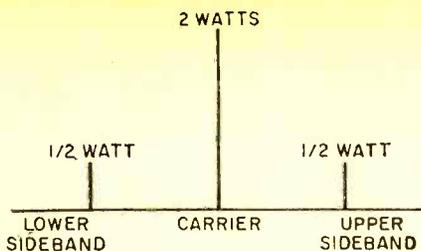

Fig. 3 The power distribution in an AM signal shows how much is wasted in the sidebands.
**Puckered-Out Power.** To heap another indignity on old-time AM, let's see how much power it wastes. As shown in Fig. 3, if a CB transmitter is putting out 3 watts of RF power, then two watts fall to the carrier. The remaining watt then divides between the two sidebands. Thus, fully two-thirds of the transmitter RF power is lost.